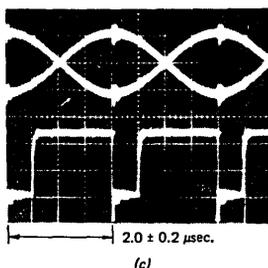

Fig. 5-7
- 32W** j. Check if the peak-to-peak value of the output waveform for "2F" is 0.35 ± 0.15 V (Refer to Fig. 5-7 (a))
m. Select "Uncal" on the timing axis of the oscilloscope and then such a waveform as shown in Fig. 5-7 (b) can be obtained.
32V n. Check if no jittery pulse follows the triggered one. (Refer to Fig. 5-7 (b))
32W o. Check if the pulses are issued from side 0 or 1 every $2.0 \pm 0.2 \mu\text{sec}$. (Refer to Fig. 5-7 (c))